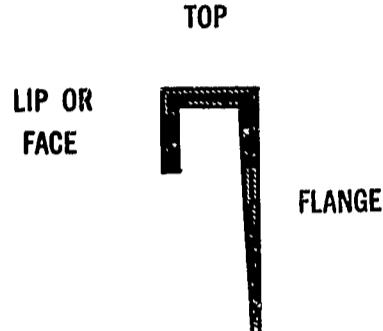

Fig. 60.
2. Notching and bending method. In the second method, V-shaped wedges are removed from the cap metal so it can be bent. The allowances that must be made in measuring for the thickness of the metal are important. Table 1 gives a handy reference, and Fig. 60 illustrates the parts of the cap metal.